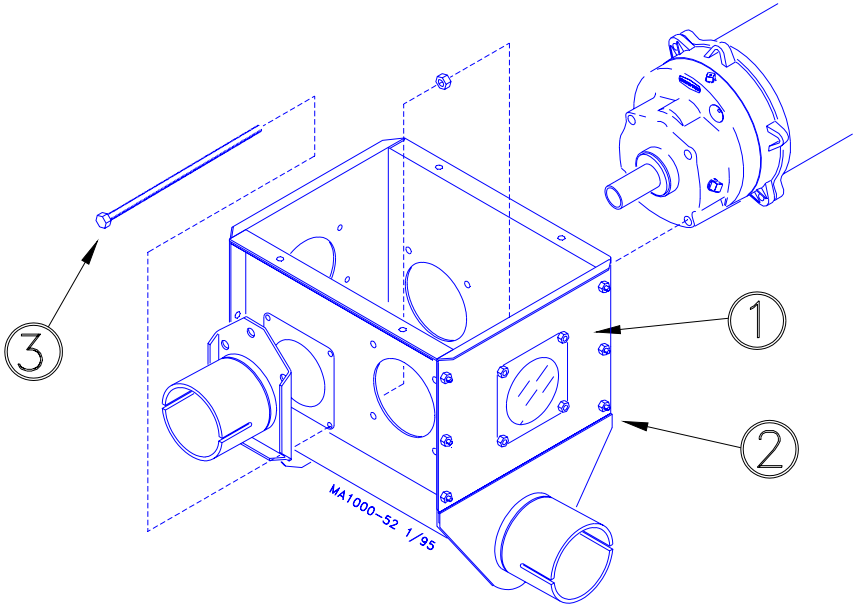

Figure 2.
2. Remove the 7-1/2" bolt and nut from the boot as shipped. Re-install the bolt so that the nut is installed INSIDE the boot as shown in Figure 2, and the bolt is threaded into the face of the gear head on the power unit. Tighten the nut down against the side of the boot. This holds the cannonball in place in the boot.